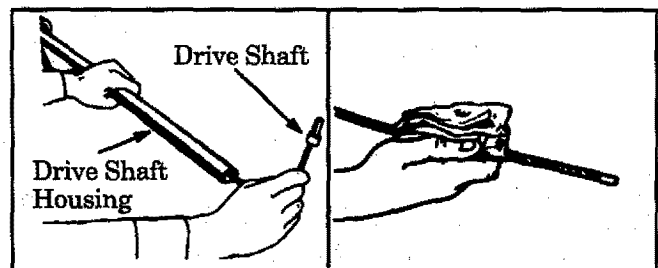

Figure 23
5. Remove drive shaft from the tube. Figure 23.
7. Using a clean cloth, wipe the drive shaft thoroughly to remove any old grease. Figure 23.
10. Replace drive shaft in the tube. Figure 23.